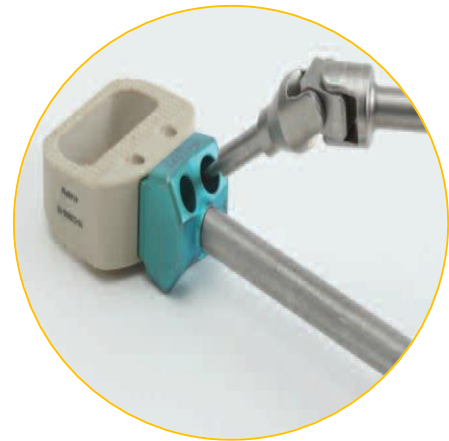

Figure 6: The Universal Awl or Fixed Awl is inserted into the guide holes until it bottoms out against the Install Block to create holes for the Bone Screw.
- F. Place the Vault® PEEK Cage and Vault Plate in the desired position. Use the Slap Hammer (10-1019) to assist with insertion if necessary. Use the Fixed Awl (10-1007-2) or the Universal Awl (10-1008-2) to create screw holes for the Bone Screws (Figure 6). A constant depth is ensured by the Awl bottoming out against the Install Guide Block (10-IB30). Fluoroscopy is used to locate the four embedded tantalum markers on the implant to verify proper implant positioning in the intervertebral space.